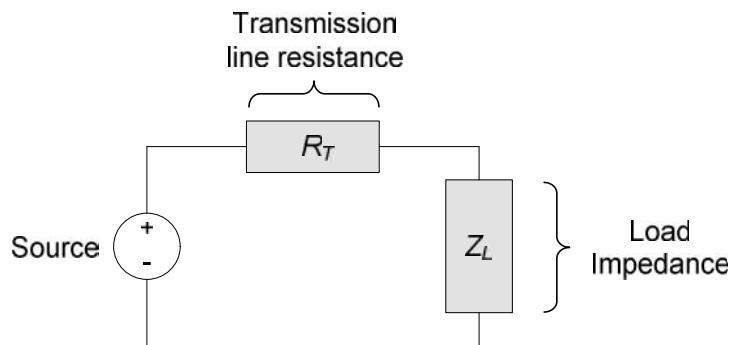
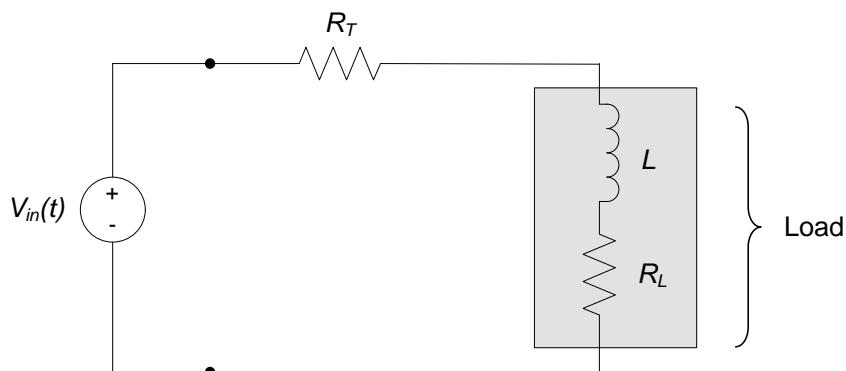

Figure 1. Power delivery system block diagram.
Figure 2. Circuit used to implement the system of Figure 1.
A typical power delivery system is shown in Figure 1. The source provides power to some load via a transmission line. The transmission line typically has some resistance, R_T . The process of delivering power to the load results in undesirable power losses due to the transmission line resistance. One primary goal of power delivery is to provide the necessary average power to a load with a minimum of power lost during the process of the power delivery. Unfortunately, the reactive power (which is not useful to the load) causes power losses during transmission. Thus, it is desirable to minimize the reactive power delivered to the load in order to reduce the average power dissipated during transmission, relative to the average power delivered to the load. The apparent power and the power factor make it relatively easy to quantify these effects.
In this lab assignment, we will emulate the system of Figure 1 with the circuit shown in Figure 2. The load is composed of a series combination of an inductor, L , and a load resistance, R_L . The “transmission line” resistance is represented by the resistor R_T . In this lab assignment, we will examine the effects of the load’s power factor on the power dissipated by the resistor R_T . For the purposes of this lab assignment, we will emphasize the transmission line effects by making the resistance R_T large relative to the load impedance.
Nominal values for the parameters in the circuit of Figure 2 are:
Analyze the circuit of Figure 2 to determine, for each value of R_L ,
- a. Construct the circuit of Figure 2 using the 10Ω load resistance and the other component values as given in the pre-lab.